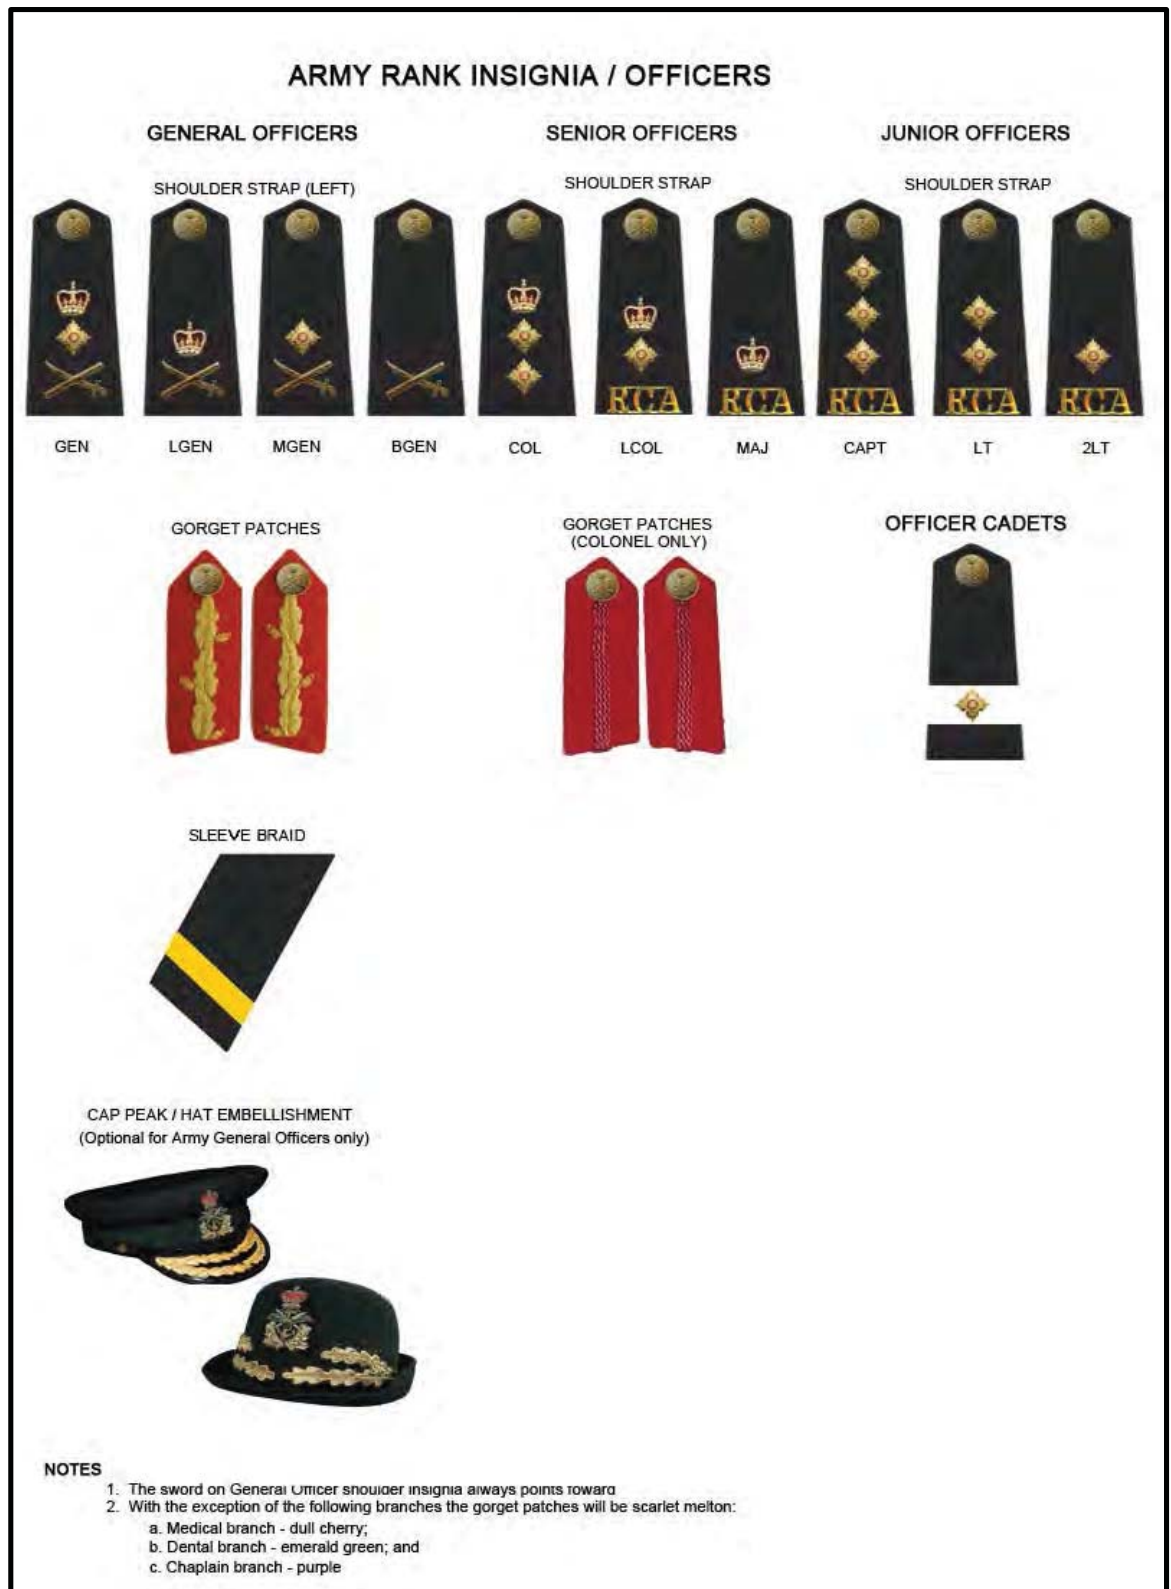

Figure 3-2-1 Army Officer's Rank Insignia
2. Officers' rank insignia are illustrated in Figure 3-2-1 to 3-2-5, and their wear is detailed in Annex A.
(See Figure 3-2-1, and 3-2-3)
12. Army officers' rank insignia are illustrated in Figure 3-2-1 and Figure 3-2-2 and their wear is detailed in Annex A.
- (1) star: 2.3cm x 2.3cm;
- (2) crown: St Edward's crown with a red felt backing inside the crown. 2.5cm high,
- (3) crossed sword and baton. 3.0 cm high;
- d. rank insignia will be centred on the epaulet with the lowest device 0.3 cm from the unit identifier or seam and a maximum of 0.2 cm between devices (See Fig 3-2-1).